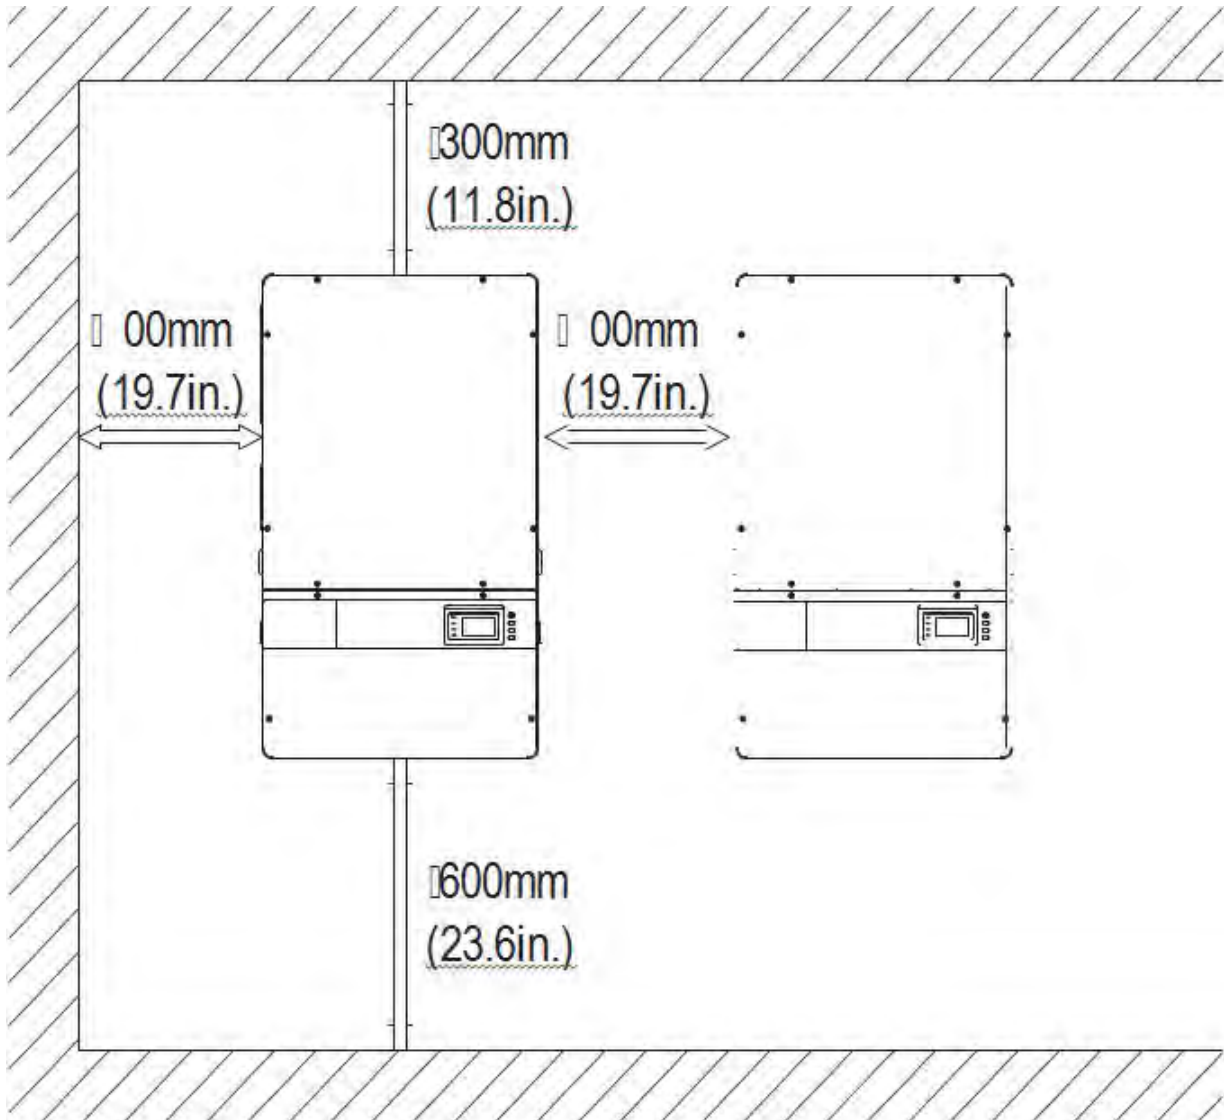

Figure 3-3 Inverter wall mounting dimensions
3) Installation space requirement (see Figure 3-3):